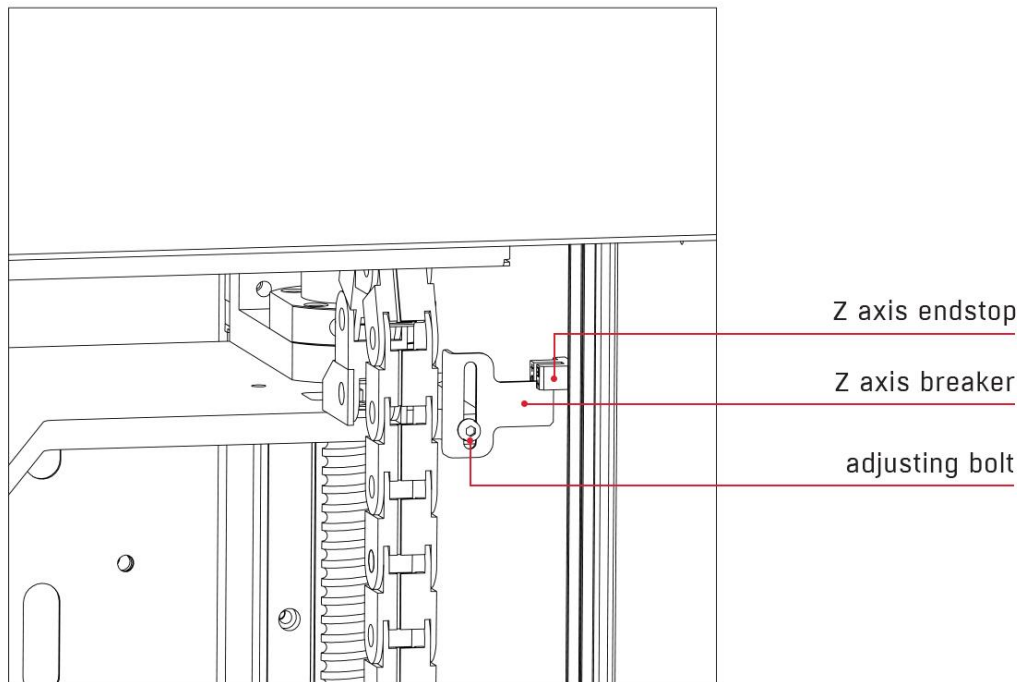

Fig. 56 The endstop and the endstop breaker located on the right side of the heatbed
1. Check the power leads and the printer's leads for abrasion wear and defects. Check the cogged belts for defects and abrasion wear. Confirm that the breaker of the optical beam of the Z axis endstop (fig. 56) is not damaged, broken or bent and that it is aligned with the endstop notch.
ATTENTION: observe carefully the movement of all axes. When the Z axis reaches the endstop and stops, check the distance between the nozzle and the heatbed using a feeler gauge. The distance should be about 0.8 - 1.5 mm. If the distance is larger, the heatbed scanning may be aborted and the "Heatbed scan aborted" error message may be displayed. If the distance exceeds 1.5 mm, adjust it manually. **To do this, loosen the adjusting bolt (fig. 56) and adjust the distance manually. If the breaker is raised, the distance between the nozzle and the heatbed will be increased; if the breaker is lowered, the nozzle will be moved closer to the heatbed. After the adjustment, tighten the adjusting bolt lightly and check the nozzle position with a feeler gauge, using the "Home Z" command available in Manual Controls menu.**